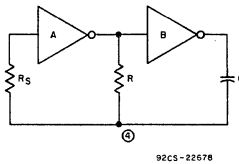
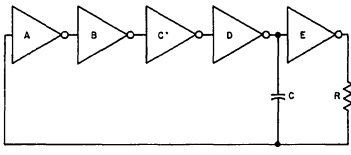

Fig. 4 — RC-oscillator with the addition of R_S
Fig. 8 - CD4047A oscillator section
The negative features of the input protection circuit can be partially compensated for by the addition of a resistor, R_S , in series with the input protection circuit, as shown in Fig. 4. Although the input inverter A is still clamped at one diode drop above V_{DD} or one diode drop below V_{SS} , the waveform at point (4) is allowed to swing well above V_{DD} and below V_{SS} . The larger swing reduces the dependency of transfer-voltage variations upon stability; the variable characteristics of the input protection circuit and their effect upon stability are greatly reduced. An analysis of this circuit is presented in
The RCA-CD4047A is an integrated RC oscillator that eliminates most of the disadvantages of the discrete circuits previously discussed. The primary reason for this improved performance is the special input-protection circuit which allows the capacitor charging waveform to swing above V_{DD} and below V_{SS} without the need for an external resistor. This circuit, shown in Fig. 8, has the same time period and stability as the circuit in Fig. 4 for the case where the value of R_S is infinite. However, a resistor is eliminated, as well as the disadvantages of a time constant caused by the resistor.
An additional advantage of the CD4047A is a reduction in power dissipation as compared to the discrete multivibrators discussed previously. Inverter A in Fig. 8 is designed with high-impedance components that limit power dissipation during the time that the inverter operates in the middle of its transfer region. Four additional inverters are used to gradually shift from a very-high-impedance inverter at the input to a very-low-impedance driver in series with the external timing resistor. Calculations for power dissipation and a comparison of P_{diss} for the CD4047A and a discrete oscillator are presented in Appendix D; the result is